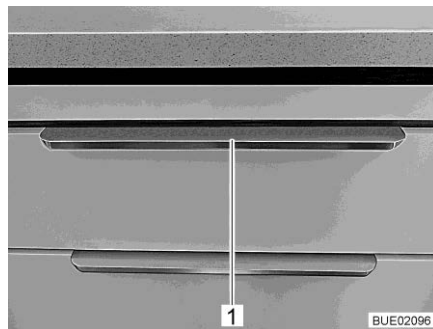
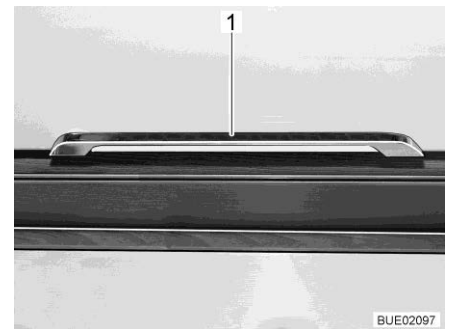

Fig. 74 Release handle
Fig. 75 Release handle (alternative)
- Press the release handle (Fig. 74,1 or Fig. 75,1) upwards, to the side or downwards depending on the fitted position and hold it down.